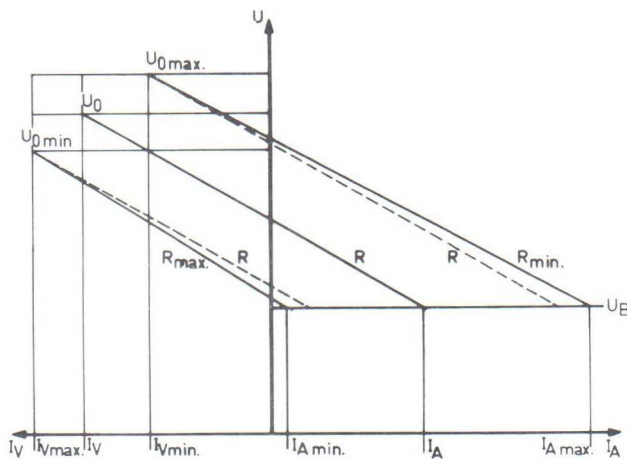

Fig. 9: Effect of all the circuit variations and tolerances: variations U_0 , I_V , tolerance R .
Figure 9 shows the combined effect of the variation of the supply voltage, the variation of the load current and the tolerance of the resistor R on the tube current. The stabilizing circuit should be designed in such a way that the resulting minimum and maximum values of the tube current will lie within the limits given by the data sheet.
Figure 9, 12 and 13 show that four conditions must be fulfilled for correct operation of a stabilizer tube. These conditions are defined by the following expressions:
a) The tube current must be higher than the minimum anode current (figure 9).